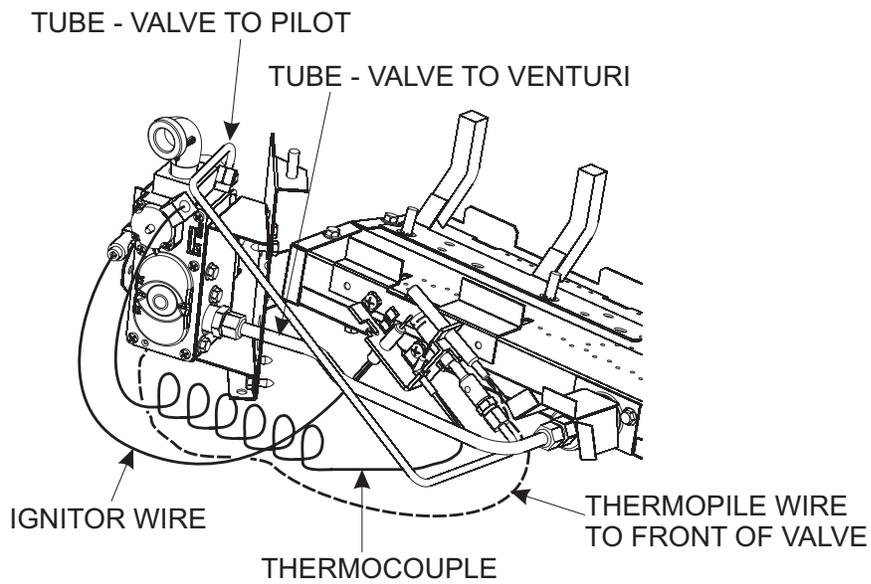

Figure 4 - PROPANE
17. Connect ignitor wire to Piezo. **See Figures 4 and 5.**
18. Screw in thermocouple to rear of valve. **See Figures 4 and 5.**
21. Attach main gas line to valve and burner. The line will go through the hole in the valve/burner leg. Tighten the nuts. **See Figures 4 and 5.**
22. **For Propane Units:** Pilot tube is one piece. Attach to fitting on valve. Make sure fitting is fully set. Tighten fitting to secure pilot. Install other end to pilot and secure nut. **See Figure 4.**